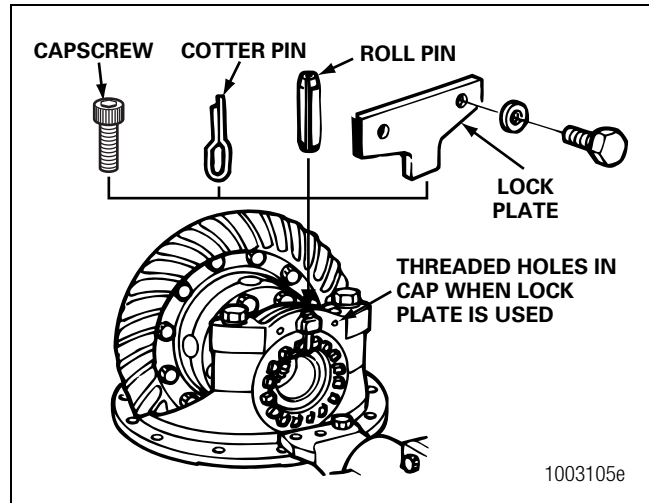

Figure 5.77
- A. Install capscrews between the lugs of the adjusting ring and through the boss of the bearing cap. New capscrews include a locking patch, which can only be used once. If you are installing used capscrews, apply Loctite® threadlocker to the capscrew threads before you install the capscrews. Figure 5.77.
- B. Install cotter pins between the lugs of the adjusting ring and through the boss of the bearing cap. Bend the two ends of the cotter pin around the boss. Figure 5.77.
- C. Use a drift and hammer to install the roll pin through the boss of the bearing cap until the roll pin is between the lugs of the adjusting ring. Figure 5.77.
- D. Install the lock plate onto the bearing cap so that the tab is between the lugs of the adjusting ring. Install the two capscrews and washers that hold the lock plate to the bearing cap. Tighten the capscrews to the correct torque value. Refer to Section 8. Figure 5.77.